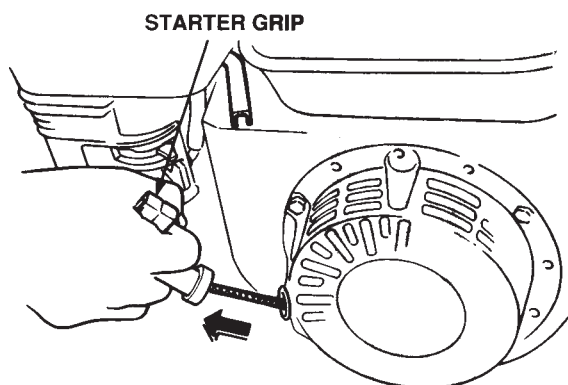

Figure 15. Starter Grip
3. Grasp the **starter grip** (Figure 15) and slowly pull it out. The resistance becomes the hardest at a certain position, corresponding to the compression point. Pull the starter grip briskly and smoothly for starting.